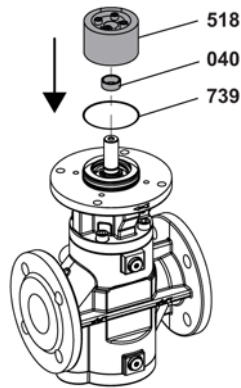

Fig. 9
3. Carefully clean the sealing surfaces. Clean and lightly grease the o-ring **739**. Insert the o-ring and slide the distance sleeve **040** onto the pump shaft, see Fig. 9.